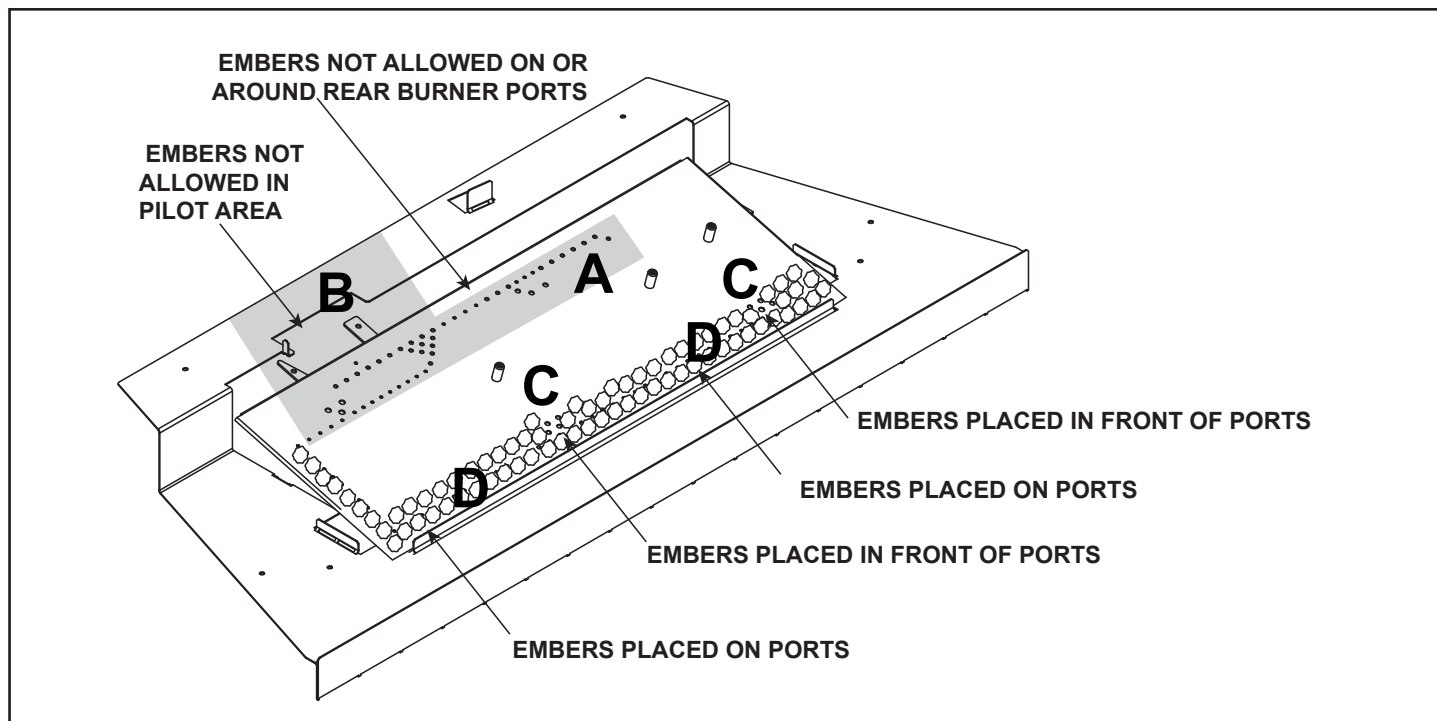

Figure 11.3 Placement of Embers
- Embers CANNOT be placed directly over rear burner port as indicated in Figure 11.3(A) or in pilot area as indicated in Figure 11.3(B).
- Place dime-size pieces of Glowing Embers® just in front of the port trail in areas noted in Figure 11.3(A), but not on or in between those ports. Care should be taken so that those ports are not covered.
- Embers may be placed on the ports in areas indicated in Figure 11.3(D). These embers must be placed loosely over the port holes, not pressed down on or into the holes. Create a single layer, no more than 1/4 inch thick.